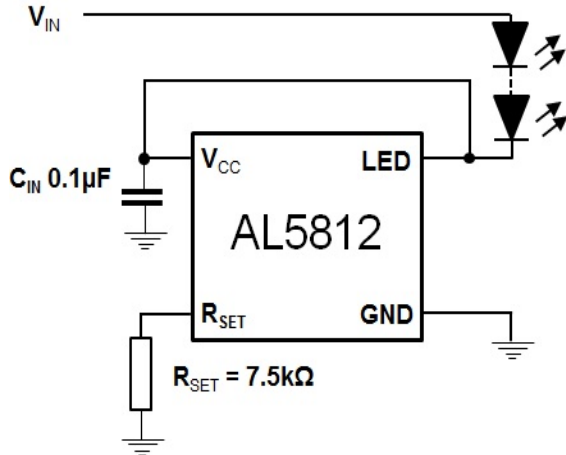
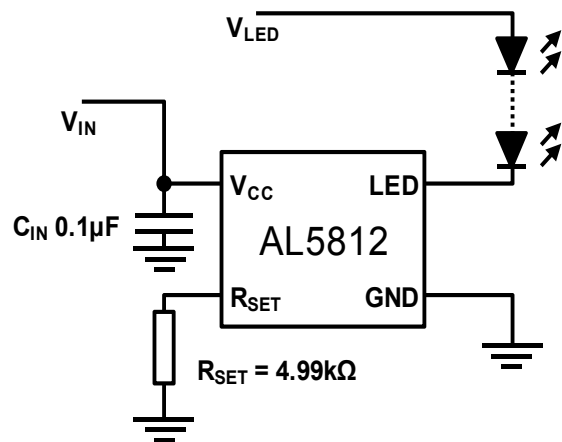
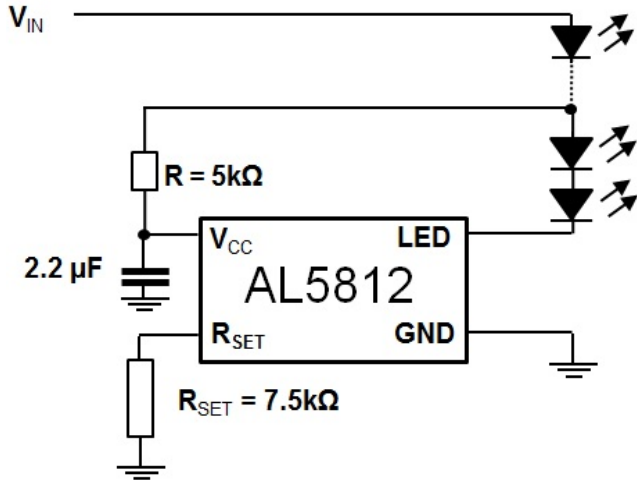
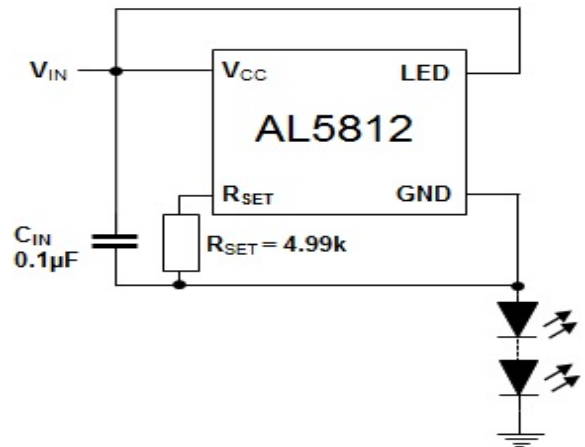

Figure 13 Low Side Current LED Setting
Figure 14 Low Side Drive – Separate Supplies
Figure 15 Low Side LED String Tapping
Figure 16 High Side Current LED String
- 13. The AL5812 has its V_{CC} pin connected to its LED pin, which are connected to the positive input supply voltage. R_{SET} is connected to AL5812 GND pin, which is connected to the anode of the LED chain. This creates a high side driver of the LED chain. See Figure 15.
The AL5812 is a Linear LED driver and in normal operation has the LEDs connected to the same potential as its V_{CC} pin and regulates the LED current by sinking current into to its LED pin see Figure 13.
The AL5812 with its 60V capability on its supply pin, V_{CC} , and its LED drive pin allows it to operate from supply rails up to 60V and/or directly drive LED chains up to 60V as shown in Figures 13 and 14. The voltage applied to the V_{CC} pin can be greater or lower than the voltage applied to the LED string. Figure 14 shows where you might control it from a 5-V rail but power the rails from a 12V rail.
An extension of Figure 14 is to derive the power for the AL5812 from the LED chain itself see Figure 15. LED chains greater than 60V can be driven in this manner as long as PWM dimming is not utilized.
Figure 15 shows the use of RC delay to match the power time delay between V_{cc} and LED pin. The AL5812 can also be used on the high side of the LEDs, see Figure 16. This is a simple way of extending the maximum LED chain voltage, however, it does increase the minimum system input voltage to: